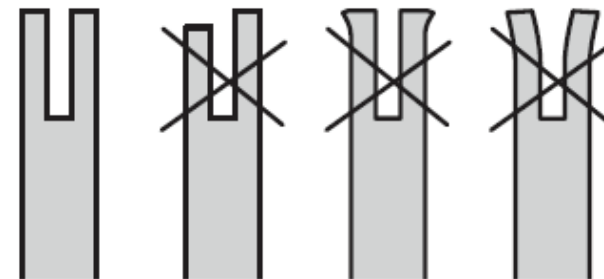

Fig. 40
5. Check the guide bar 'rail' for wear: Hold a ruler (straight edge) against the side of the guide bar and 'cutter side plates'. If there is a gap between the ruler and guide bar the guide bar 'rail' is normal. If there is no gap (ruler flush against the side of the guide bar) the guide bar 'rail' is worn and needs to be replaced with a new one of the same type (Fig. 40).